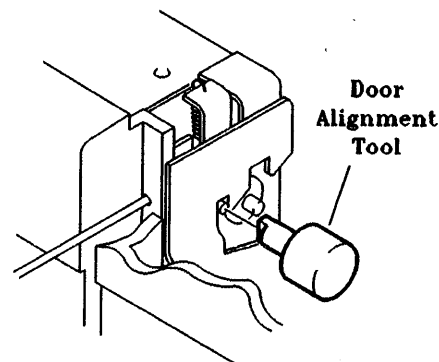

Fig 6-3. Door alignment Tool
- 9) Insert the door alignment tool over the door latch pin (see Figure 6-3).